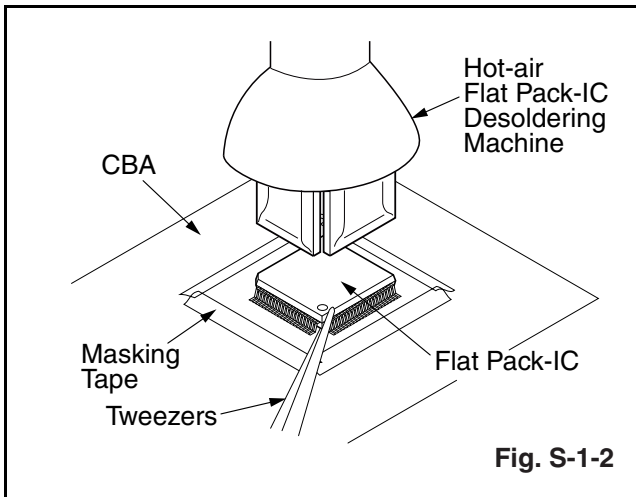

Fig. S-1-2
3. Do not apply the hot air to the chip parts around the Flat Pack-IC for over 6 seconds as damage may occur to the chip parts. Put Masking Tape around the Flat Pack-IC to protect other parts from damage. (Fig. S-1-2)